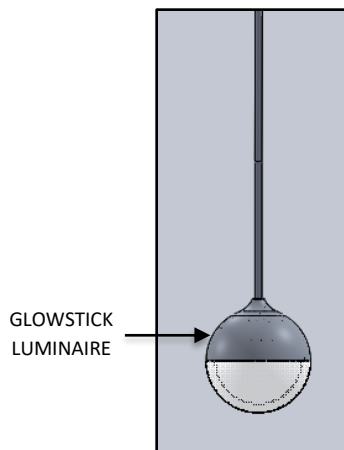

FIG. 3 GLOWBALL LUMINAIRE
1. GLOWBALL LUMINAIRE (7 OR 14 DROP) with CORD attached. (Pre-assembled as shown in FIG. 3)